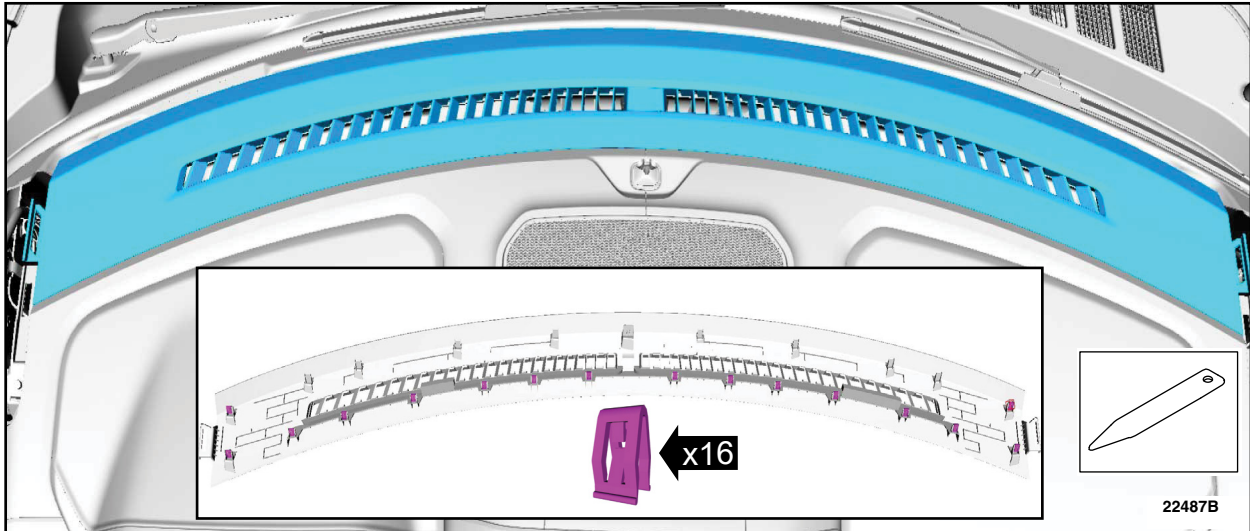

FIGURE 2
4. Release the clips and remove the defrost grille trim panel. See Figure 2.